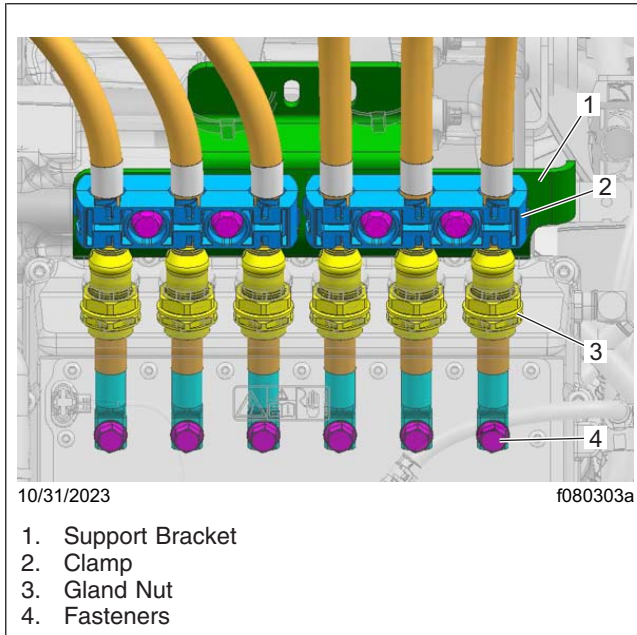
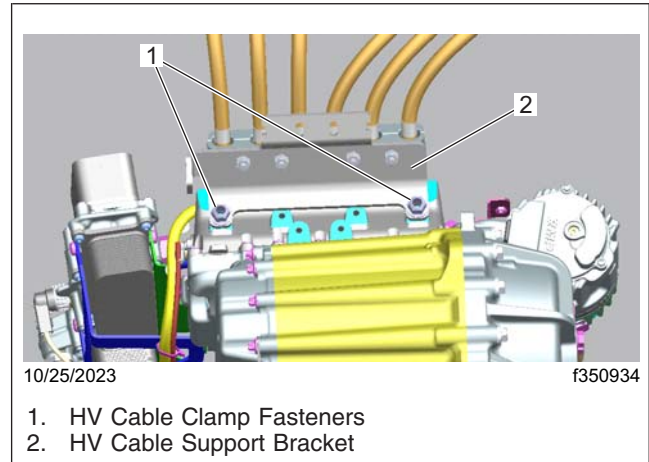

Fig. 14, Axle Side High Voltage Cable Removal
Fig. 15, HV Cable Support Bracket
14. Remove the HV cable support bracket and the mounting fasteners that are mounted to the eCarrier. See Fig. 14 and Fig. 15.
59. Install the support bracket on top of the eCarrier. Then, install the HV cable clamps. See **Fig. 14**.